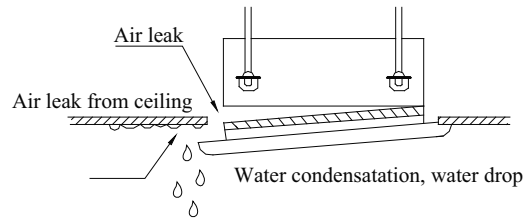

Fig. 16 — Improper Screwing
- (1.) Improper screwing of the screws may cause issues as shown in Fig. 16.